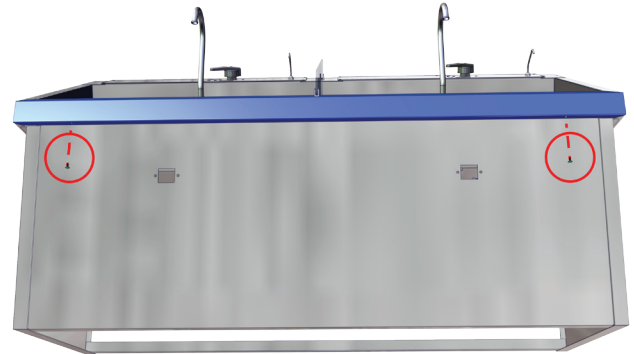

Fig. 7: Remove screws from base front
6. Use the Phillip screwdriver to remove the 2 screws (Fig. 7 - circled in red) from the underside of the bottom shroud (shown in blue).